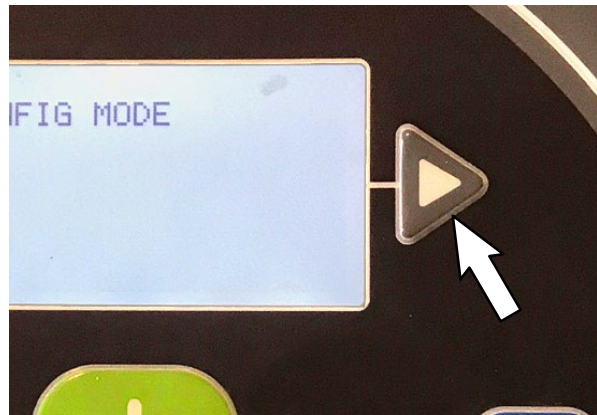

FIG. 26
- Press and hold the right arrow key and turn the key switch to the ON position. (Fig. 26)